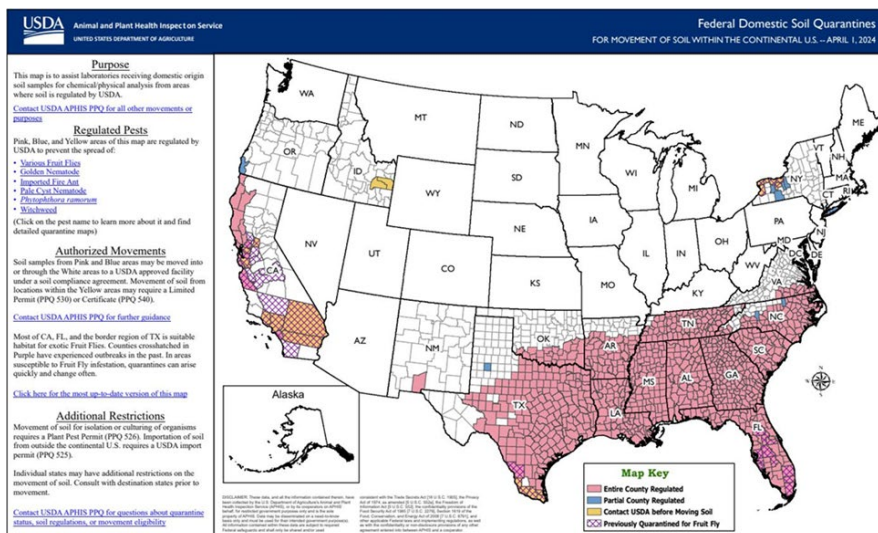

Figure 1.—Map of regulated counties.
- Regulated soil sample: A soil sample that is collected from an area that is currently under quarantine by the NDA, APHIS, or both. The current APHIS map of “Federal Domestic Soil Quarantines” is shown in figure 1 below.